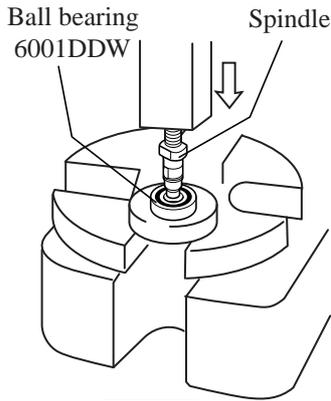

Fig. 11
(3) Mount ball bearing 6001DDW to spindle by pressing spindle with arbor press. See Fig. 11.